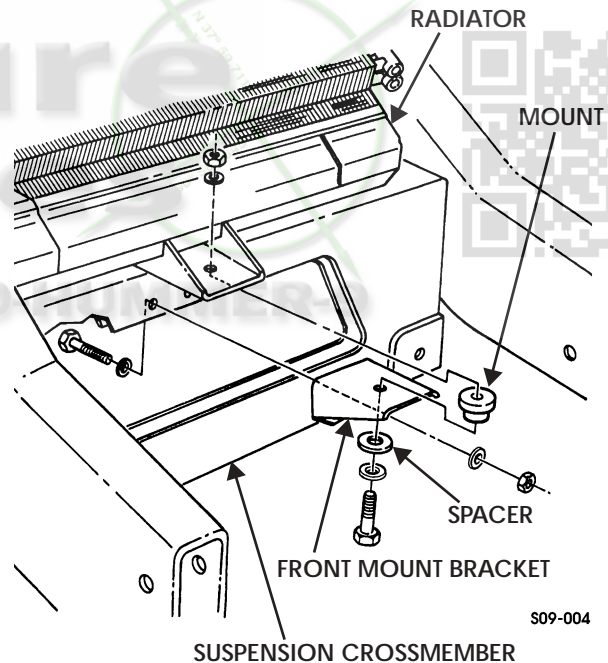

Figure 9-16: Radiator Front Mount Bracket
1. Remove locknut, washer, capscrew, washer, and spacer securing radiator to front mount bracket. Discard locknut (Figure 9-16).
1. Install mount in front mount bracket. (Figure 9-16).